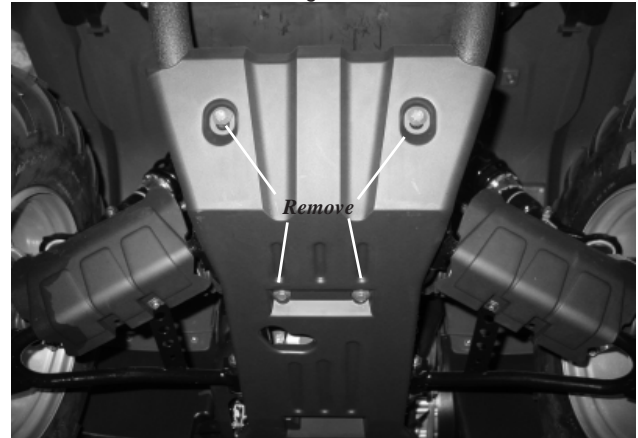

Figure 2
2. Remove the four bolts securing the front skid plate to the ATV frame. (figure 2)